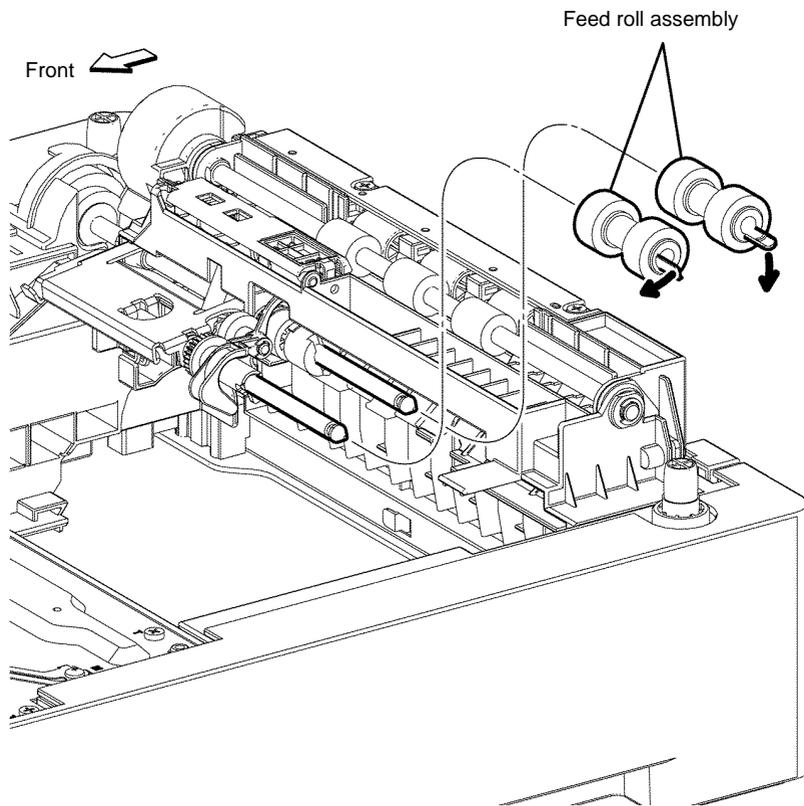

Figure 1 Option feeder feed roll assembly removal
3. Remove the hook that fixes the option feeder feed roll assembly, then remove the option feeder feed roll assembly, Figure 1.